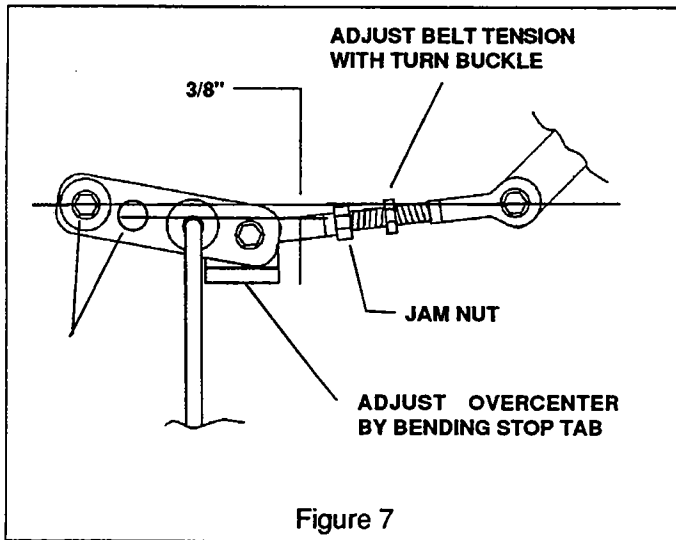
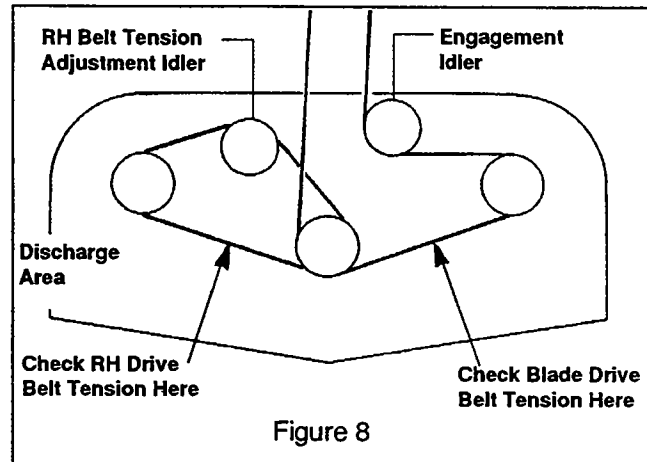

Figure 7
Figure 8
1. Engage blade clutch lever and check for proper over center clearance. There should be about 3/8" between rod and straight edge (see figure 7). Bend the stop tab to adjust clearance.
2. Adjust belt tension so that the belt moves 1/2" with 10 lbs. of pressure applied between the center and left spindle pulleys (see figure 8). Adjustment is made by loosening the jam nut and tightening/loosening the turn buckle (see figure 7). Belt driving right spindle should be checked the same way. Adjust with J-rod on RH belt tension adjustment idler.